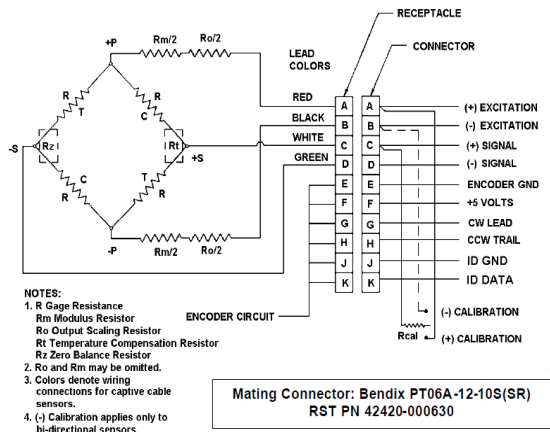

Figure 1—Hand Torque Wrench Wheatstone Bridge With Angle Wiring Code
Hand Torque Wrenches manufactured by RS Technologies Division of PCB Load & Torque, Inc., are designed to accurately measure static torsional loads ranging from 2.0 lb-in up to 600 lb-ft (0.23 to 814 Nm). All models utilize strain gages configured into a Wheatstone Bridge Circuit to produce the primary sensing element. The four-arm Wheatstone Bridge configuration is shown below in **Figure 1**. Also pictured in **Figure 1** is the wiring code for the standard 10-pin PT receptacle.
Shunt calibration simulates the mechanical input to a transducer by unbalancing the bridge with a fixed resistor placed across, or in parallel with, one leg of the bridge. For clockwise shunt calibration, or +CAL, the shunt resistor ( $R_{CAL}$ ) is shunted across the +Excitation (A) and +Signal (C) leg of the bridge. For counterclockwise shunt calibration, or -CAL, the shunt resistor ( $R_{CAL}$ ) is shunted across the -Excitation (BD) and +Signal (C) leg of the bridge. See **Figure 1** for shunt resistor locations in the Wheatstone Bridge circuit.